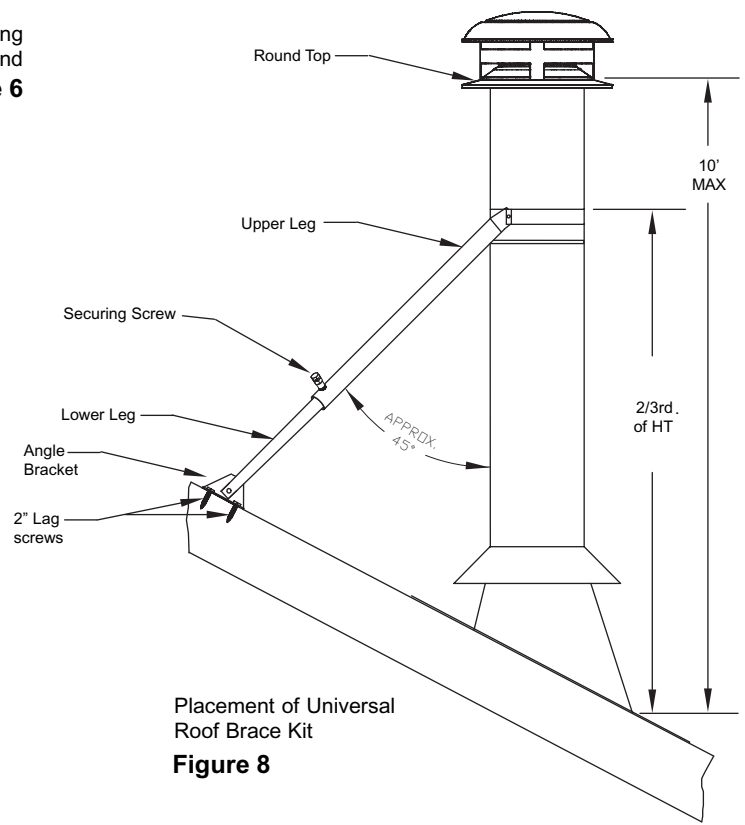

Figure 8
E. Position the Support Band approximately two thirds of the way up the chimney height (see Figure 8). The preferred location is next to a joint, immediately above or below a Locking Band. Secure Support Band by tightening the 2" bolt. NOTE: Only one chimney joint should be above a Roof Brace Kit. An additional Roof Brace Kit may be required for taller systems.